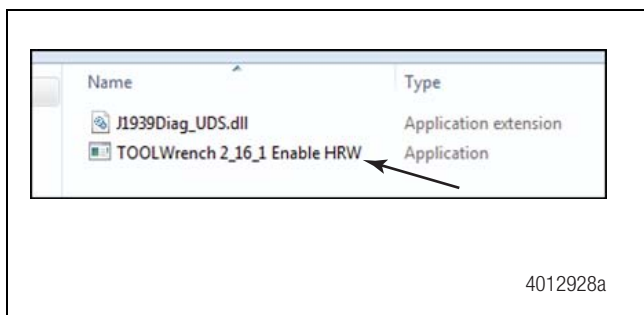

Figure 18
2. Double click the “TOOLWrench 2_16_1 Enable HRW” file to open the TOOLWrench. Figure 18.